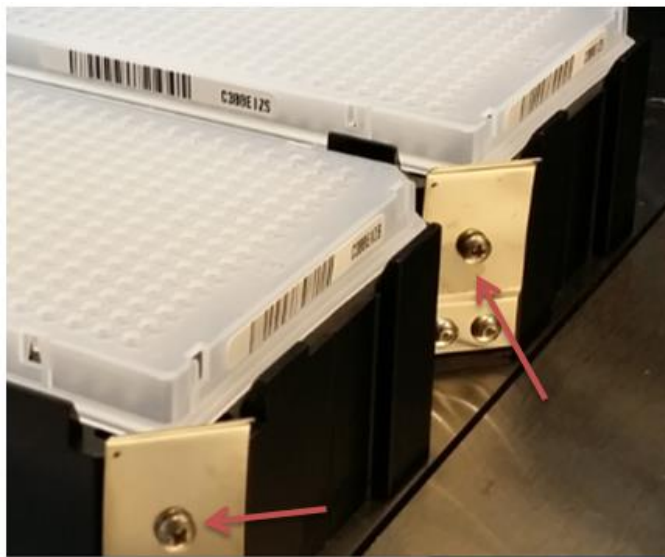

Figure 13: Adjusting plate tension
- 3.25. Snap the 384 well plates, including the waste plate into the base with Well A1 in the top left corner. Be sure that the plate is snug but not buckling at the corners. Use a mini screwdriver to adjust the tension to make sure the plates are secure. See Figure 13 for where to adjust the tension, indicated by the red arrows.